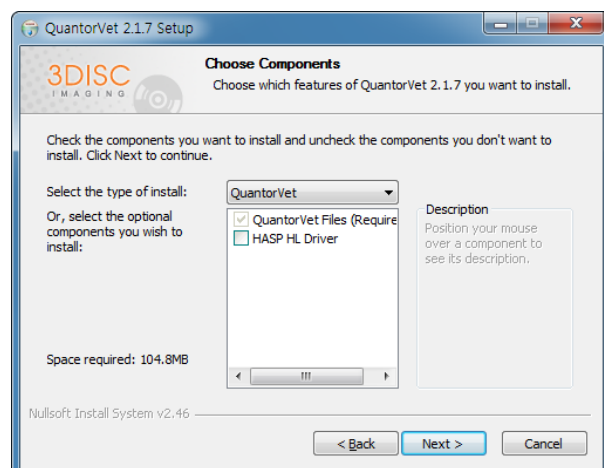

Figure 2.2 Components Dialog Box
- Choose all components and click the "Next" button as shown in Figure 2.2.